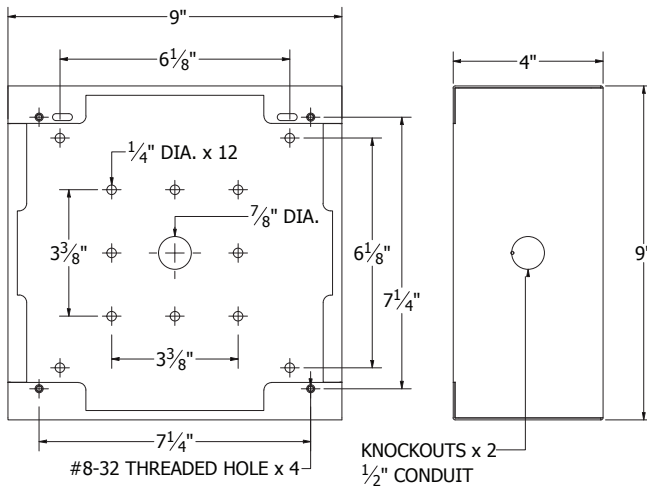

FIGURE 1
- B) Orient the backbox to allow field wiring entry in the backbox at your selected location. Using the backbox as a template, mark the locations of the outer mounting holes on the installation surface. See **FIGURE 1** for mounting hole locations. Outer mounting holes are 6 1/8" apart, horizontally and vertically. Note: if using the large, round, center wire entry hole (7/8" diameter), in the center of the backbox, properly align the backbox to allow entry of the audio source wires.